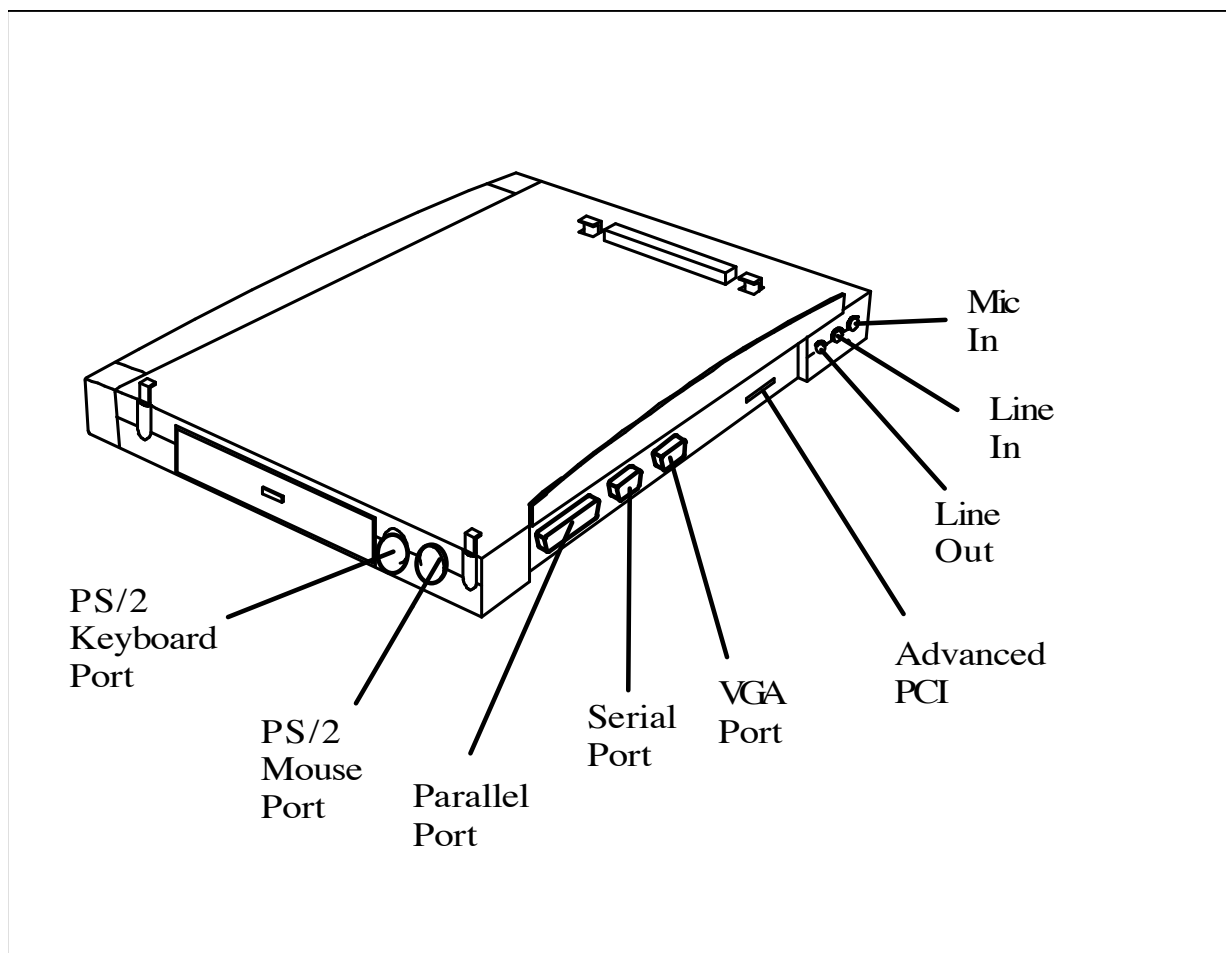

Figure 2-4 MPB Port Assignments
Refer to Figure 2-4 (MPB Port Assignments) and then connect all desktop devices to the MPB instead of directly to the notebook as described in Paragraphs 2.4.2 through 2.4.5.
Note: Refer to Figure 2-4 for port assignments if using the MPB option.
2. Connect the 15-pin external VGA cable from the monitor to the VGA connector on the notebook computer (Figure 2-9) or MPB (Figure 2-4).